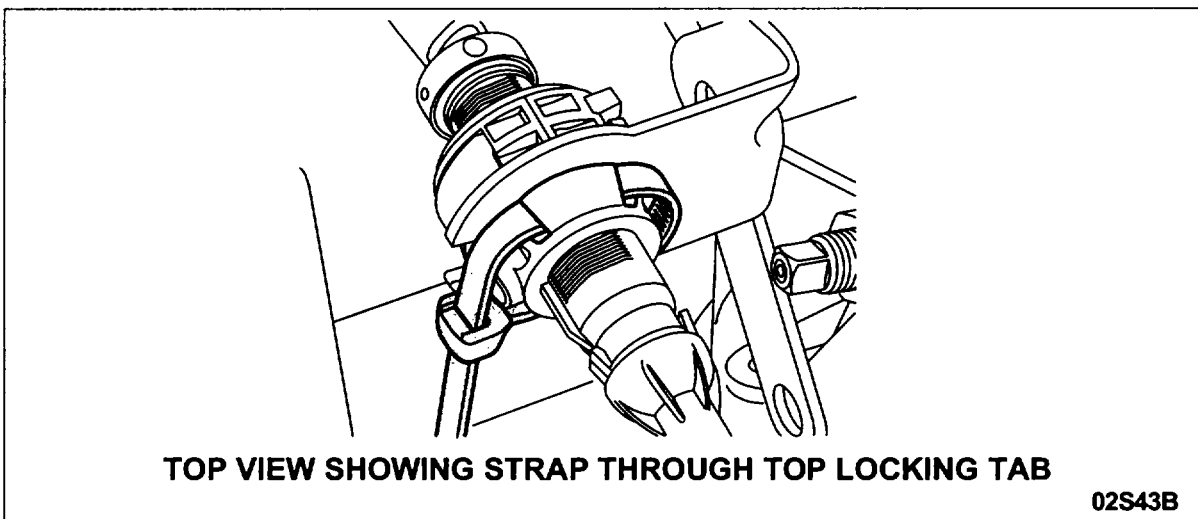

FIGURE 2
4. Loop the tie strap around the adjuster and insert between the top locking tab and the body of the shift cable adjuster. Insert the small end into the tie strap buckle. See Figure 2.